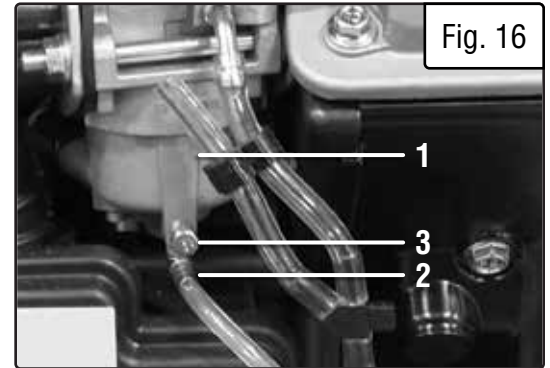

Fig. 16
4. Locate the carburetor (Fig. 16 - 1) and the clear drain tube (Fig. 16 - 2).
6. Open up the carburetor drain screw (Fig. 16 - 3) with a Phillips-head screwdriver and drain out any gasoline that has built up inside the carburetor through the drain tube into the approved gasoline-storage container.
2. Locate the carburetor (Fig. 16 - 1) and the transparent drain tube (Fig. 16 - 2) from the carburetor that extends down through the bottom of the generator.
4. Use the screwdriver to loosen the drain screw (Fig. 16 - 3).